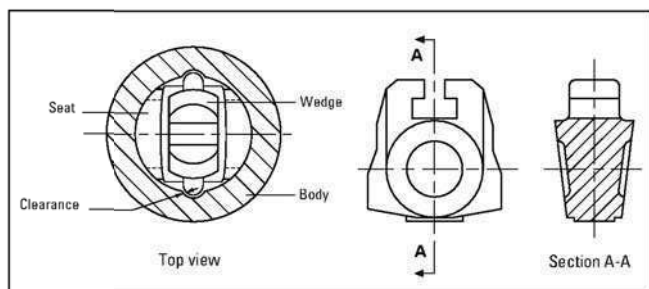

Figure 6.1B Gate valve wedge
4. When fitting a wedge, it is also important that the wedge guide slots have sufficient clearance to allow the wedge to move freely along the wedge guides, as shown in Figure 6.1B (top view). Otherwise the wedge may be prevented from making full contact with seats.